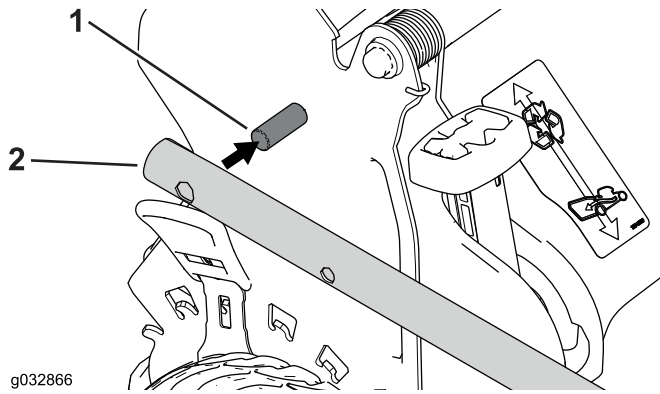

Figure 5
1. Handle knob (2) 2. Carriage bolt (2)
2. Install the handle ends onto the mower housing so that the pin attached to each handle bracket is in the lower hole of its related handle end (Figure 5).